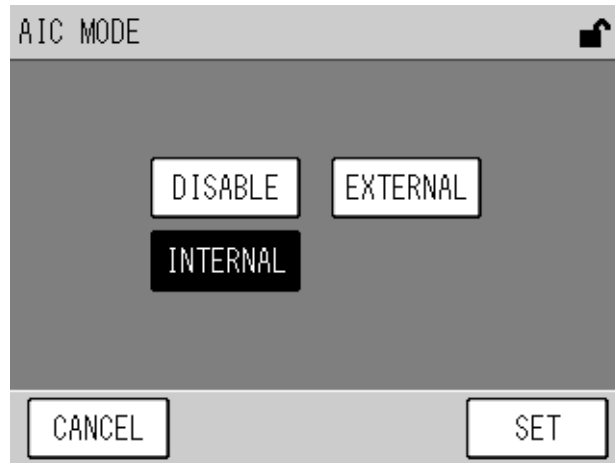

Fig. 18 AIC MODE screen
Mode	Sets the starting procedure of AIC. Pressing the right button of [MODE] will display the AIC MODE screen (page 24 Fig. 18).
1. Select [INTERNAL] in the AIC MODE screen (page 24 Fig. 18).
1. Select [EXTERNAL] in the AIC MODE screen (page 24 Fig. 18).